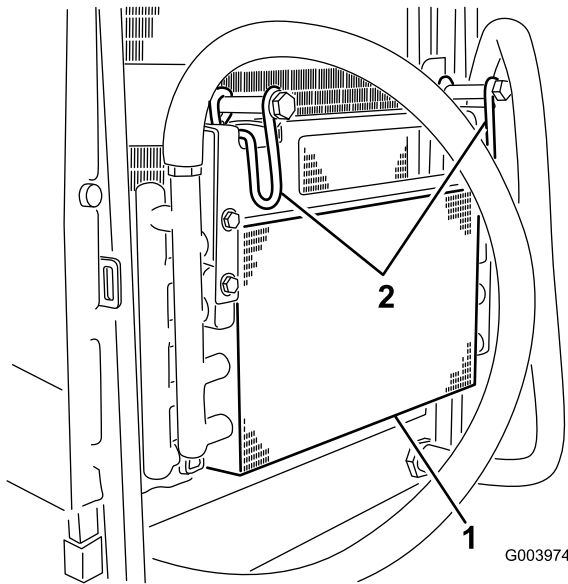

Figure 72
5. Pivot the latches inward to release the oil cooler (Figure 72).